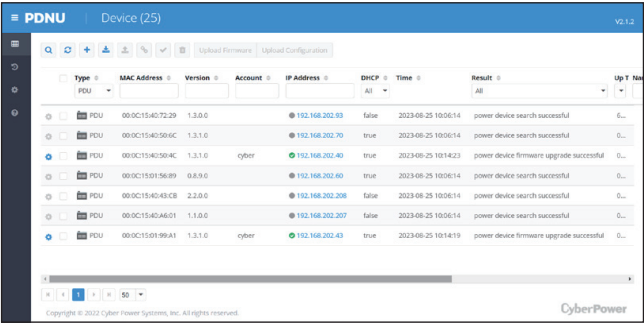

Figure 4
- 7. Once the firmware upgrade is implemented, you will see the Result in the main window, as shown in Figure 4.